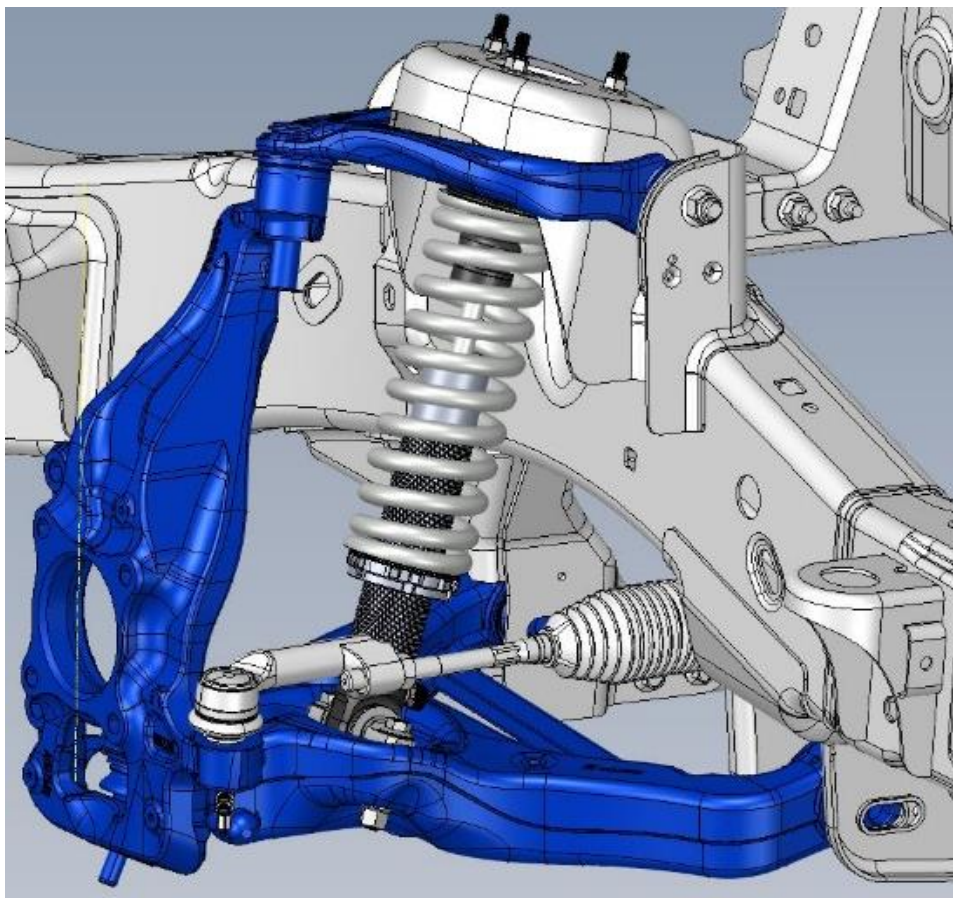

Figure 13
- 18) Adjust the spring seat collar up the threaded shock body to expose the correlating amount of threads per desired drop. **(Figure 13)** The adjustment collars will be close to the front axles on 4wd models but will gain clearance as the truck is set down and the suspension is compressed.